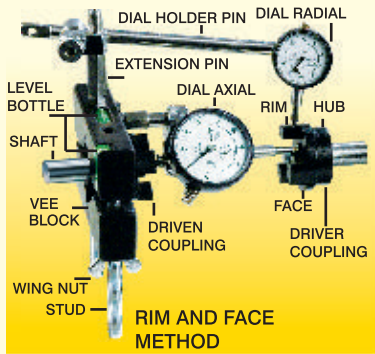

Fig. 4
4) Aluminum Vee blocks with Studs & *Spirit levels Ref. Fig. 4